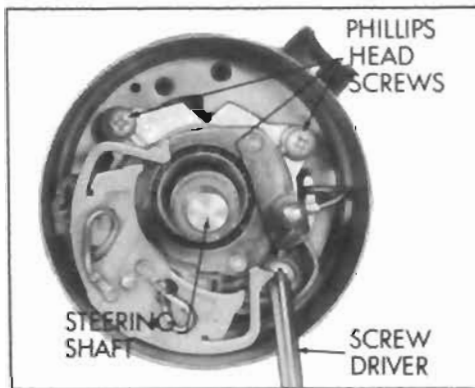

Figure 8-71—Removing Steering Shaft Upper Bearing Adapter Screws
8. Remove three screws on steering shaft upper bearing adapter. See Figure 8-71.